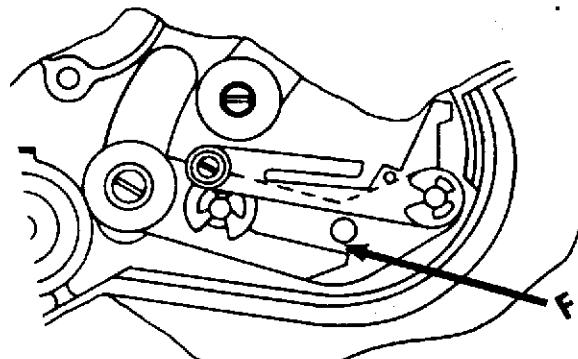

FIG. 5
1. Rotate Control Knob to Forward operating position. There should be approximately 1/8" clearance between Pinch Roller Arm Assembly and stud on Pinch Roller Actuating arm. (Refer to Fig. 5)